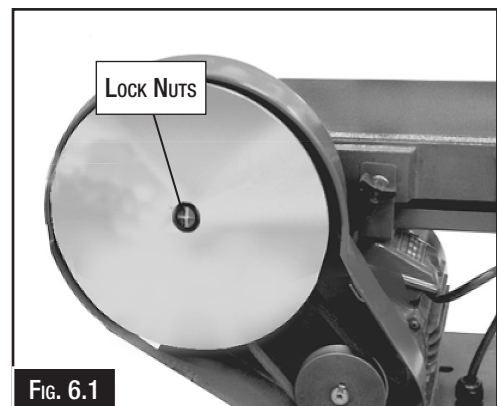

Fig. 6.1
4. Remove the sanding disc, then remove the screw securing the sanding disc plate and remove the plate. (Fig.6.1)